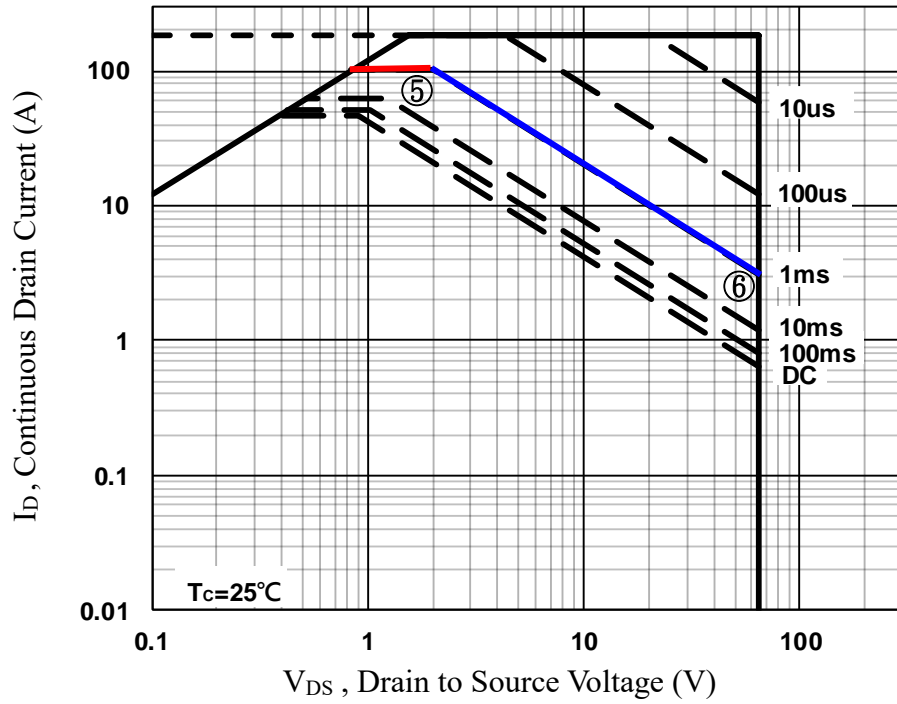

Fig. 3 The SOA of PDC6986BZ-5 for 1ms curve
Finally, one of the transient operation will be introduced as an example in Fig. 3. Fig. 3 shows the 1ms transient operation of SOA and the drain current and drain to source voltage of the point ⑤ (red line) are shown as